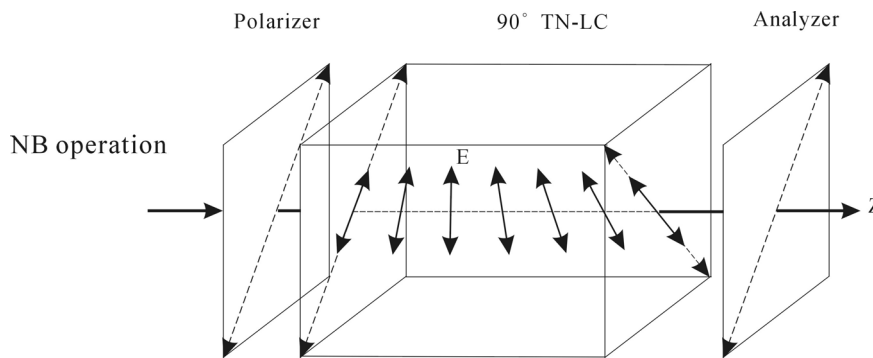

Fig. 3 NB mode operation of a  $90^\circ$  TN cell
When a linearly polarized light traverses through a  $90^\circ$  TN cell, its polarization follows the twist of the LC directors (polarized light sees  $n_e$  only) so that the output beam remains linearly polarized except for that its polarization axis is rotated by  $90^\circ$  (it's called the polarizing rotary effect by  $n_e$ ; similarly we can also find polarizing rotary effect by  $n_o$ ). Thus, for a normally black (NB) mode using a  $90^\circ$  TN cell, the analyzer's (a second polarizer) transmission axis is set to be parallel to the polarizer's transmission axis, as shown in Fig. 3 (see next page). However, when the applied voltage  $V$  across the LC cell exceeds a critical value  $V_c$ , the director of LC molecules tends to align along the direction of applied external electrical field which is in the direction of the propagation of light. Hence, the polarization guiding effect of the LC cell is gradually diminishing and the light leaks through the analyzer. Its electro-optical switching slope  $\gamma$  is defined as  $(V_{90} - V_{10})/V_{10}$ , where  $V_{10}$  and  $V_{90}$  are the applied voltages enabling output light signal reaches up to 10% and 90% of its maximum light intensity, respectively.